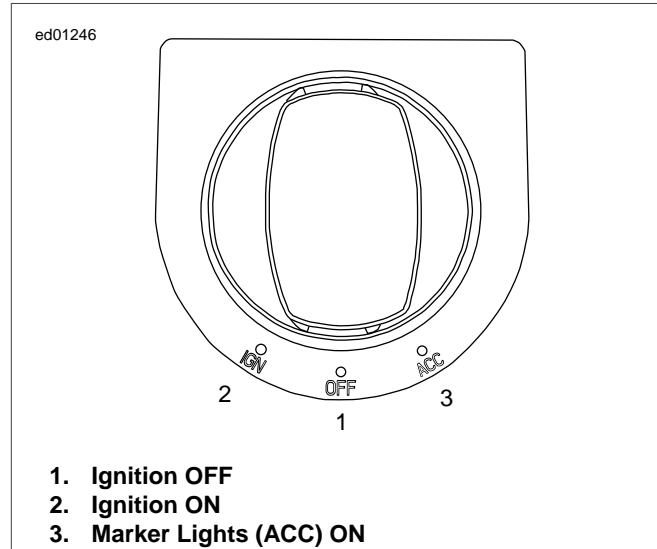

Figure 4-4. Ignition Switch
- See Figure 4-4. "Key ON" means that the Ignition Switch is turned to IGNITION and the Engine Stop Switch is set to RUN (although the engine is not running).